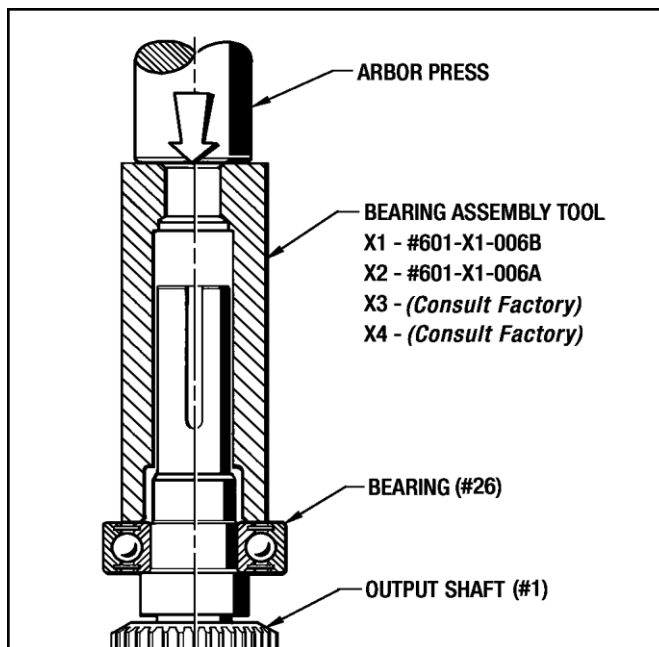

Figure 9.6 - Installing Bearing (#26)
1. Install the Bearing (#26) on to the Output Shaft (#1) with an Arbor Press and the appropriate Bearing Assembly Tool as shown in Figure 9.6.